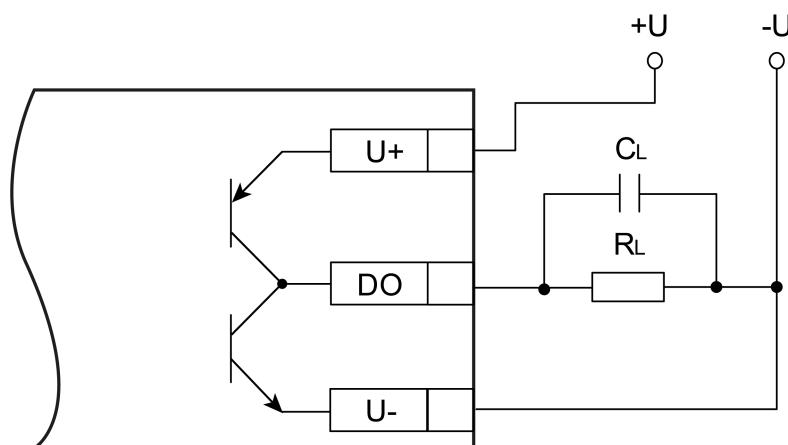

Fig. 4.3 Output wiring in push-pull switching mode
- push-pull switch (*Fig. 4.3*) — for switching loads with larger capacitance and lower current (less than 100 mA)